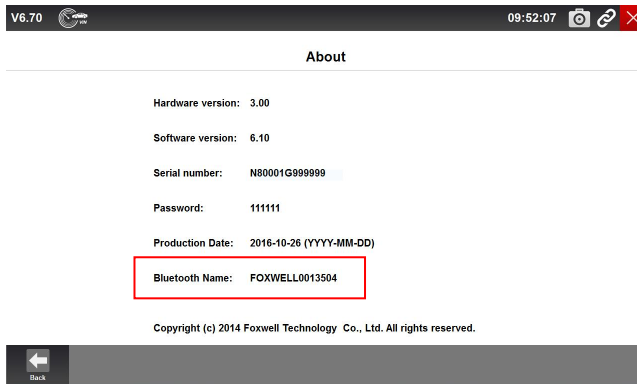
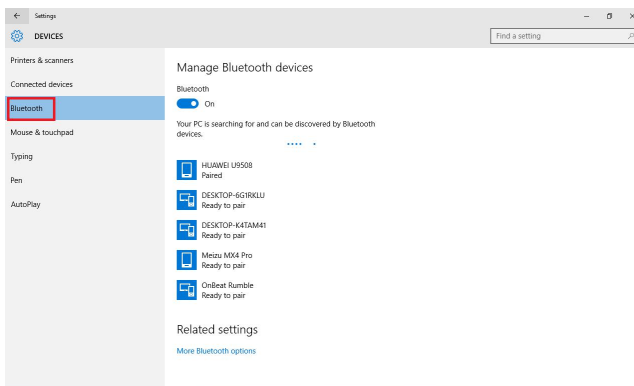

Figure 4-7 Sample Bluetooth Name Screen
Figure 4-8 Sample Bluetooth Pairing Screen
- 4.If VCI Communication Status Indicator does not turn to green, please turn on Bluetooth in “ Settings ” . The unit will search for Bluetooth devices automatically, then select the right VCI (Bluetooth Name listed in About page as Figure4-7) to pair. Once the pairing screen showing Connected (as Figure4-8), it means GT90 has connected with the VCI successfully and the VCI Communication Status Indicator turns to green.